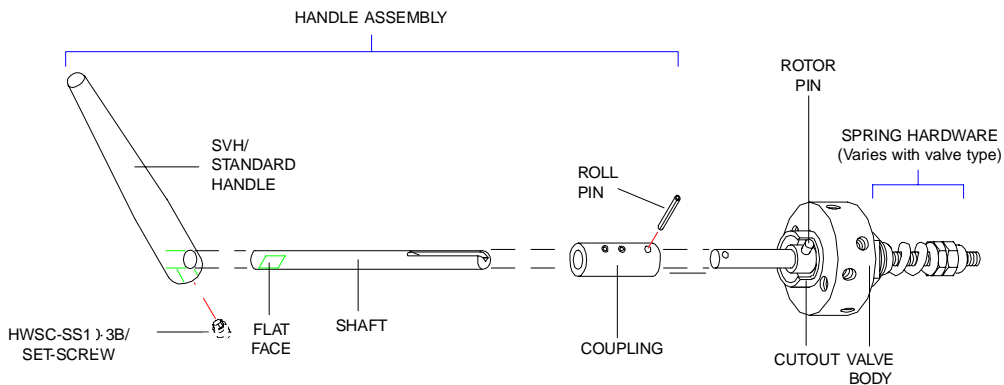
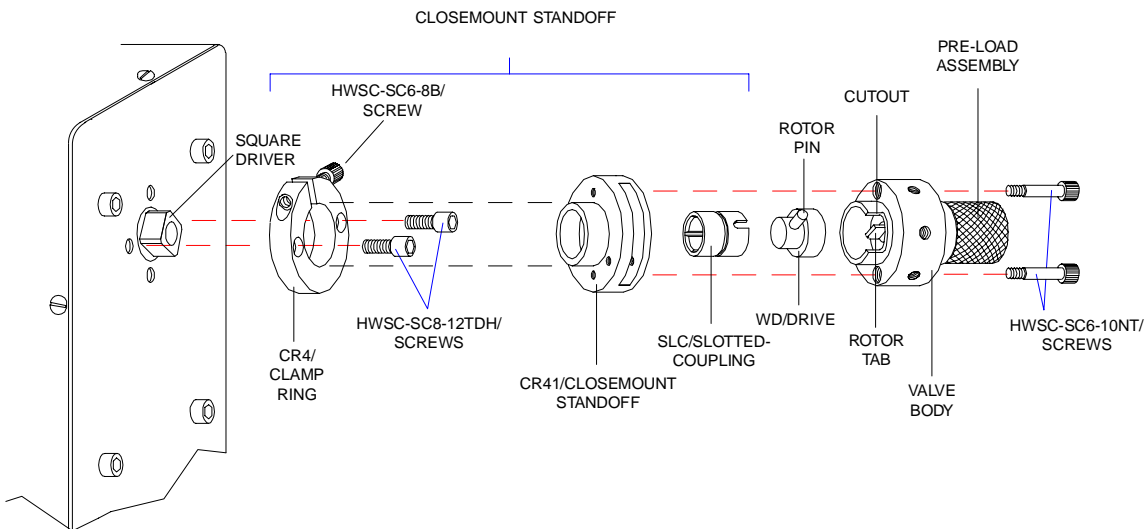

Figure 6: P Type valve with an SVH handle
Figure 8: Valve on actuator with closemount hardware
2. See **Figure 6**. Remove the black handle by sliding its shaft out of the coupling.
2. Place the slotted coupling over the driver (Figure 8) or the valve shaft (Figure 6 and 7) and engage the rotor pin.
For a closemount valve, (Figure 8, page 9) use the 7/64 hex driver to loosen the HWSC-SC6-8B/socket head screw (6-32 x 5/8") in the stainless CR4/clamp ring. Pull off the valve and its attached black-anodized CR41/closemount standoff. With a 9/64 hex driver remove the two HWSC-SC8-6TDH/modified socket head screws (8-32 x 3/8") which hold the clamp ring to the actuator.